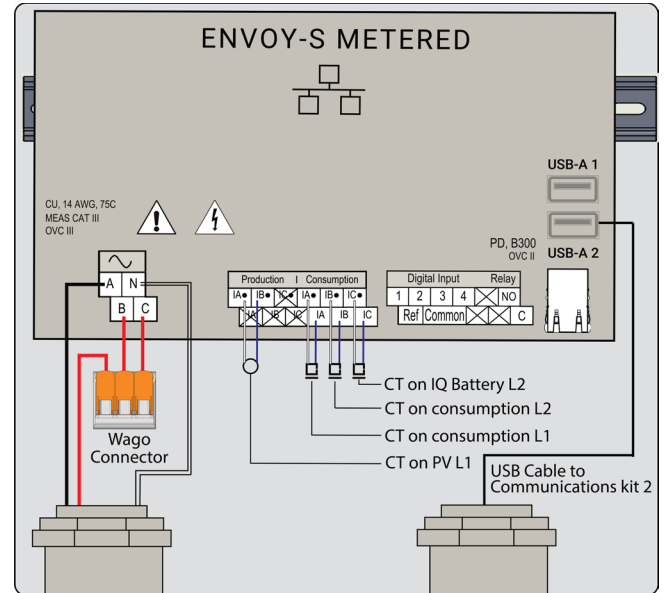
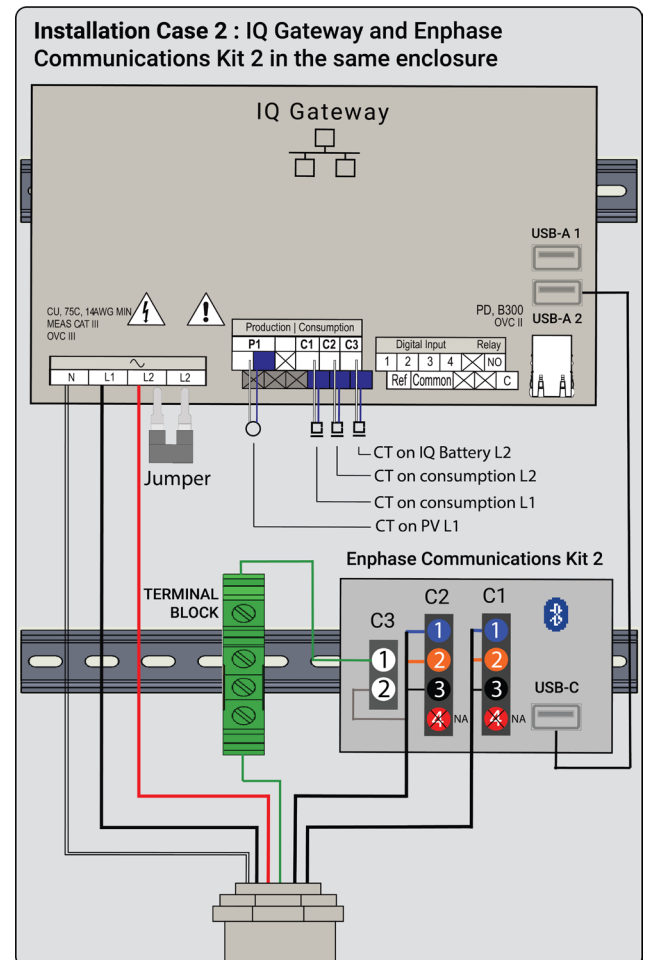

Figure 8: Envoy S Metered wiring
Figure 9: Wiring diagram when the IQ Gateway is installed in the Communications Kit 2 enclosure
- Connect the CT lead wires to the C3 port on the consumption meters on the IQ Gateway. (refer to Figure 9 for the wiring diagram). In case of an Envoy S Metered, connect it to the IC• and IC consumption ports as shown in Figure 8.